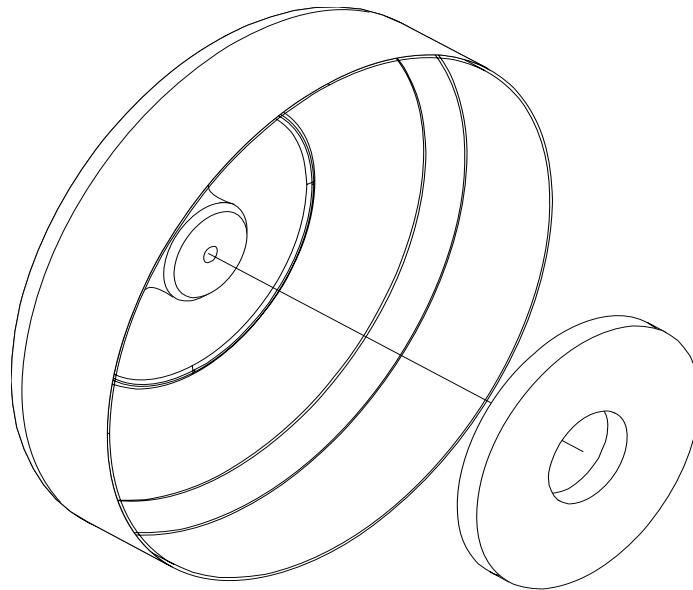

Fig. 1
4. Apply the provided gasket to the inside of the air filter cover. (Fig. 1)